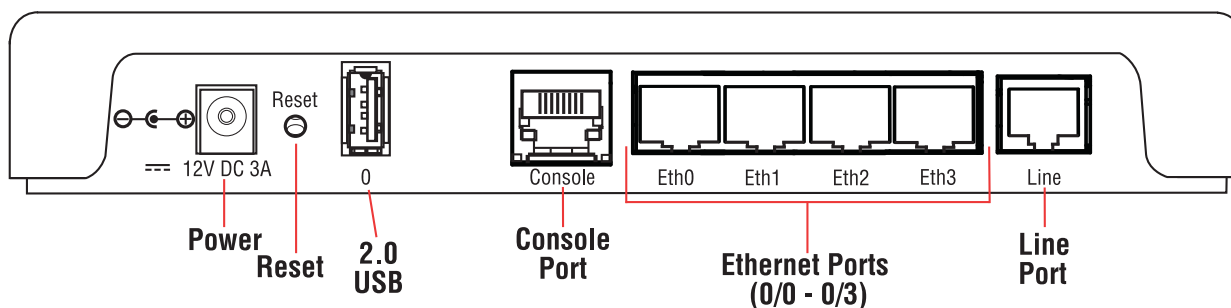

Figure 4. CL2300 rear panel options
**Note** See figure 4 for the rear panel arrangements